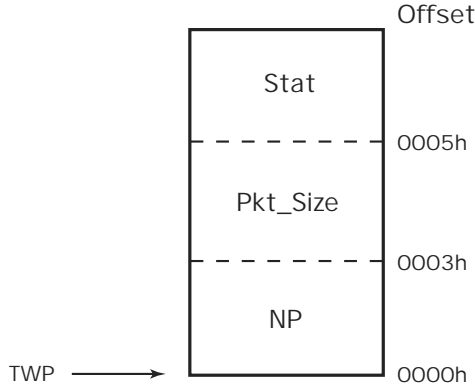

Figure 62. Descriptor Table Entries
The descriptor table contains three entries: next pointer (NP), the packet size (Pkt\_Size), and the packet status (Stat), as displayed in Figure 62